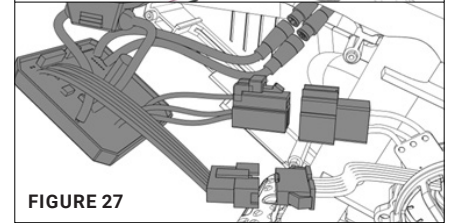

FIGURE 27
5. Insert new control board and reconnect. [Figure 27]